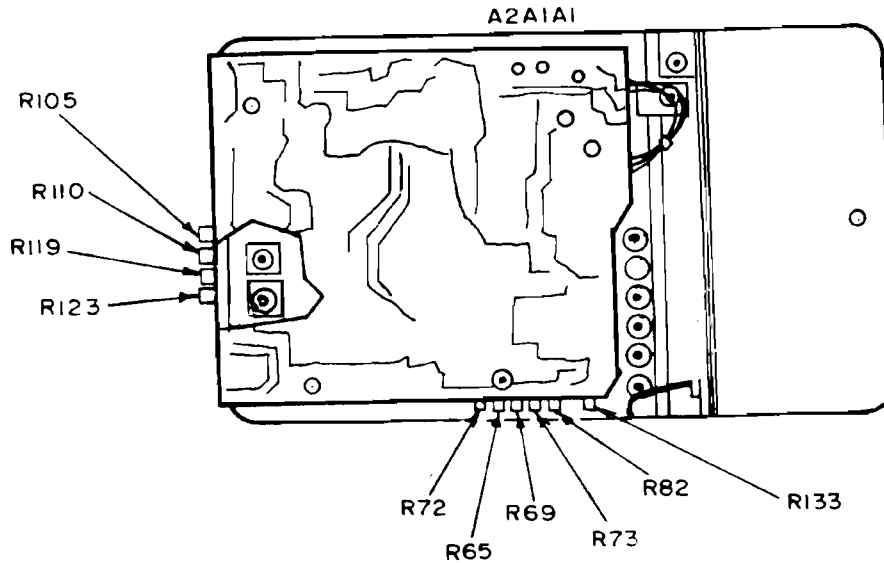

Figure 8. MM-100E multimeter - rear view.
³If out-of-tolerance, adjust calibrator for 10.0000 and adjust A2A1A1R82 (fig. 8) for 10 V indication on multimeter. (R)
(9) Set TI multimeter FUNCTION switch to OHMS and RANGE switch to X1 Ω. If meter does not indicate (infinity), perform b (4) below.
(10) Connect resistance standard to TI multimeter INPUT, using probe in table 3 (set to X1).
(11) Adjust resistance standard until TI multimeter indicates 30 on OHMS scale. If resistance standard does not within limits specified in first row of table 16, perform b (5) below.
(12) Repeat technique of (11) above for settings and indications listed in table 16. Resistance standard will indicate within limits specified in table 16.
(13) Set TI multimeter FUNCTION switch to HI-Z and RANGE switch to 1V.
(14) Connect calibrator to TI multimeter INPUT.
¹If required, readjust A2A1A1R123 (fig. 8) for best in-tolerance indication (R).
(1) Adjust A2A1A1R65 (fig. 8) for 0 indication on multimeter.
(2) Adjust A2A1A1R73 (fig. 8) for 0 indication on multimeter.
(3) Adjust calibrator output for a 1.00000 indication. Adjust A2A1A1R69 (fig. 8) for a 1V indication on TI multimeter (R).
(4) Adjust A2A1A1R119 (fig. 8) for ∞ (infinity) on TI multimeter (R).
(5) Set resistance standard to 30 Ω . Adjust A2A1A1R123 (fig. 8) for 30 Ω indication on TI multimeter (R).
(6) Adjust calibrator output for a 1 V indication. Adjust A2A1A1R72 (fig. 8) for a 1 V indication on TI multimeter (R).
(7) Adjust A2A1A1R110 (fig. 8) for 6 dB indication on **SINAD** scale (R).
(8) Adjust **1 kHz** control until audio analyzer indicates 10 percent distortion.
(9) Adjust A2A1A1R105 (fig. 8) for 10 percent indication on TI multimeter (R).
(10) Adjust A2A1A1R133 (fig. 8) for 60 percent indication on TI multimeter (R).